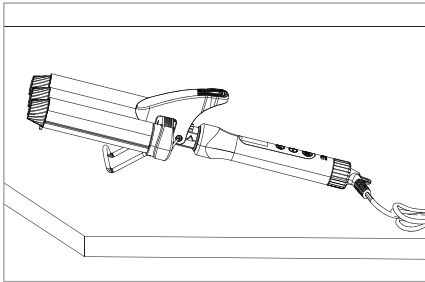

Fig. 1
- ▶ During use and when cooling down, always place the appliance on a stable, level, heat-resistant surface using the stand ⑩. This must also be observed for the heating process!
- 1) Fold out the stand ⑩ and set up the appliance as shown in Figure 1. This is the only way to ensure that no hot parts come into contact with the surface on which the appliance is placed.